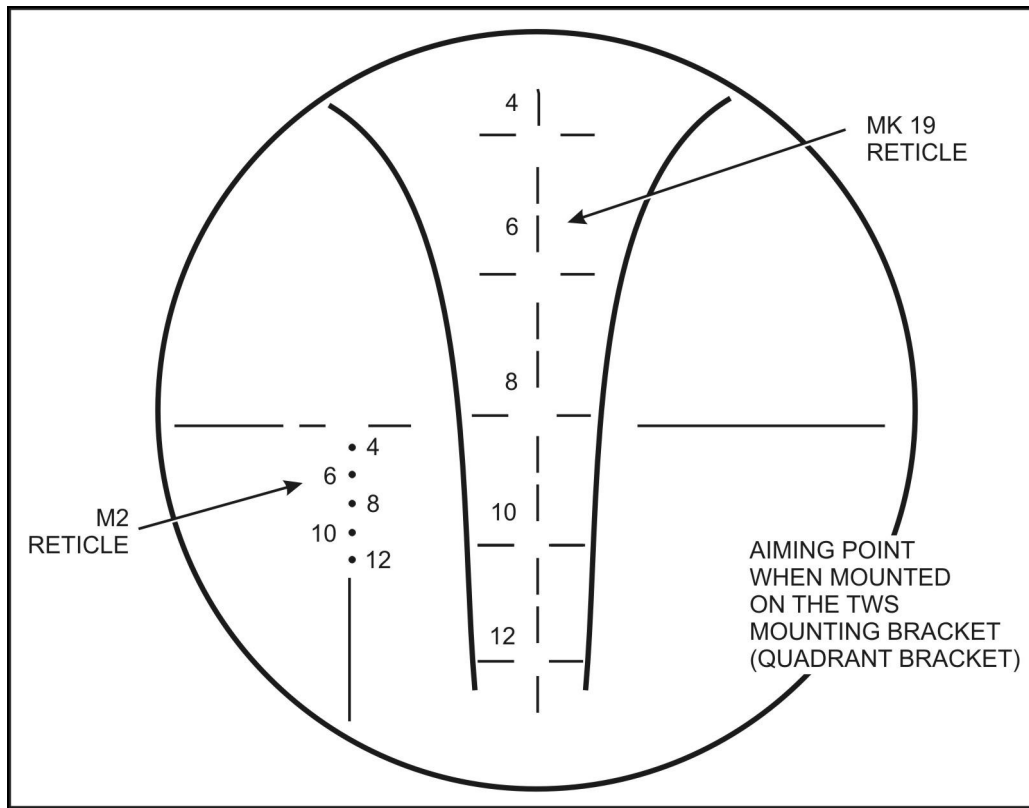

Figure G-15. AN/TVS-5 reticle for the MK 19 and M2 machine guns.
(1) The ON-OFF/TUBE BRIGHTNESS control applies power to the sight and controls the brightness of the image intensifier tube. It also enables the ON-OFF RETICLE BRIGHTNESS control to function.
(2) The ON-OFF RETICLE BRIGHTNESS control applies power to the reticle and controls the brightness of the reticle.
(3) The OBJECTIVE FOCUS RING adjusts the range focus from 25 meters to infinity.
(4) The DIOPTER FOCUS RING adjusts the focus of the eyepiece.
(5) The DIOPTER INDICATOR indicates the direction of rotation of the DIOPTER FOCUS RING for + and diopters.
(6) The RETICLE ELEVATION ADJUSTMENT ACTUATOR controls the reticle adjustment in the up and down direction. Each click of adjustment moves the strike of the round 1.0 inch at 100 meters.
(7) The RETICLE AZIMUTH ADJUSTMENT ACTUATOR controls reticle adjustment right or left. Each click of adjustment moves the strike of the round 1.0 inch at 100 meters.
b. **AN/TVS-5 Sight Reticle.** The MK 19 and the M2 machine guns share the same AN/TVS-5 sight reticle (Figure G-15).